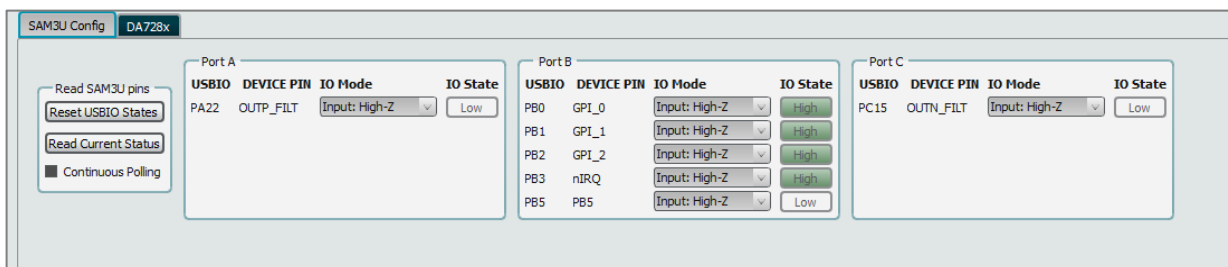

Figure 62. SAM3U configuration
1. In the SmartCanvas DA728x GUI (see Figure 62), on the **Sam3U Config** tab, set the **IO Mode** in each port to **Input: High-Z**. It is also possible to use the SmartCanvas DA728x GUI to set the state of the GPIOs if edge triggering control is required from the SAM3U microcontroller.